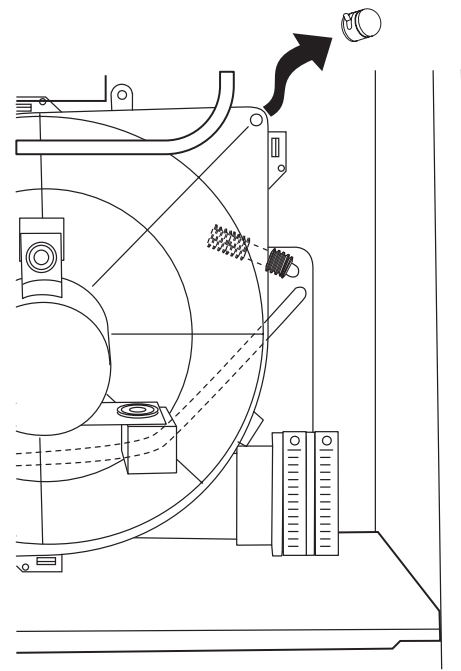

**Fig. 18 - Inducer Housing Drain Tube**
3. Disconnect upper inducer housing drain connection cap from inducer housing. (See Fig. 18.)